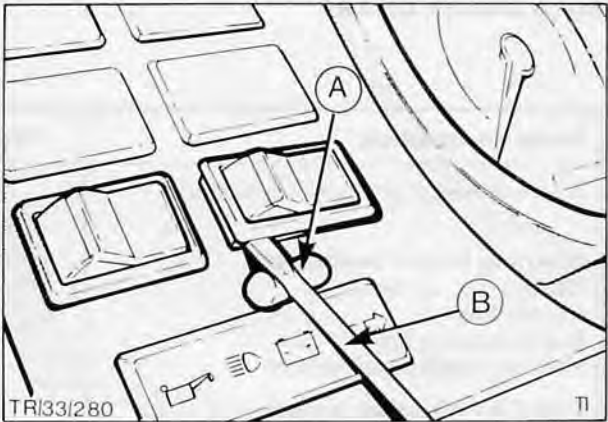

Fig. 86. Lever switch from panel
3. Using a small electrical screwdriver, pivoting on protective material, prise switch from its bezel location, Fig. 86.